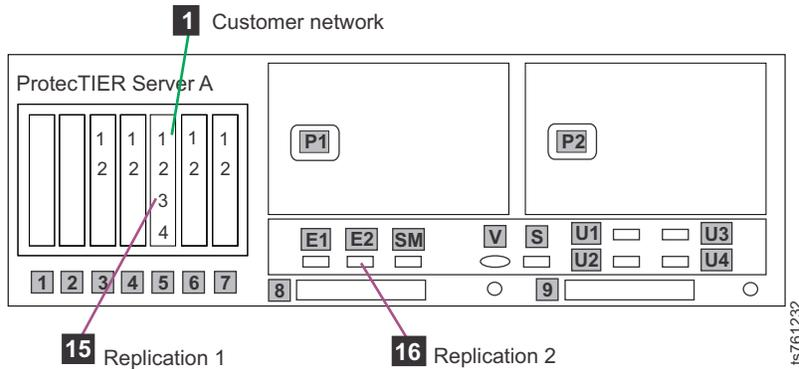

Figure 20. Customer and replication Ethernet connections for single node FSI configuration, Feature Code 3457
- a. Remove replication cables from server ports that are labeled **15** and **16** in Figure 20.